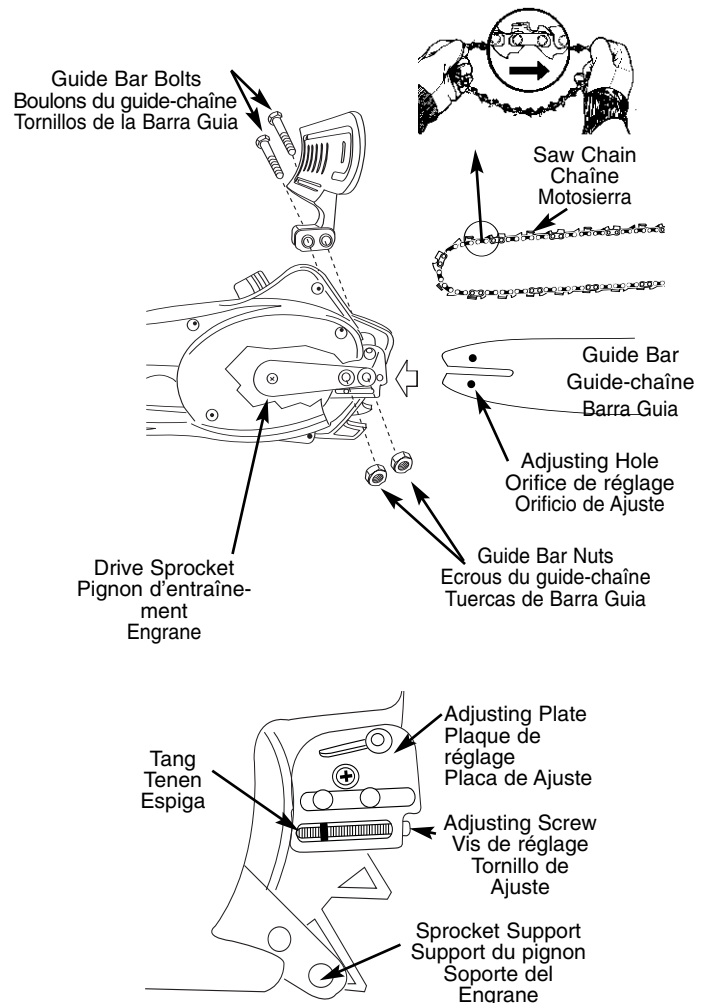

Fig.3
1. Remove bar nuts, push bar bolts in and slide sprocket support down. (See Fig. 3)